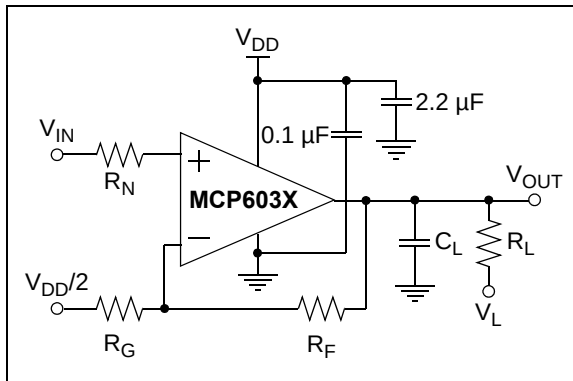
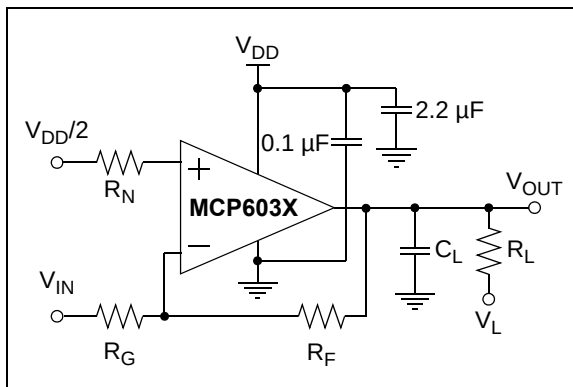

**FIGURE 1-2:** AC and DC Test Circuit for Most Non-Inverting Gain Conditions.
**FIGURE 1-3:** AC and DC Test Circuit for Most Inverting Gain Conditions.
**Electrical Characteristics:** Unless otherwise indicated,  $V_{DD} = +1.8V$  to  $+5.5V$ ,  $V_{SS} = GND$ ,  $T_A = +25^\circ C$ ,  $V_{CM} = V_{DD}/2$ ,  $V_{OUT} \approx V_{DD}/2$ ,  $V_L = V_{DD}/2$ ,  $R_L = 1\text{ M}\Omega$  to  $V_L$  and CS is tied low. (Refer to Figure 1-2 and Figure 1-3).
**Electrical Characteristics:** Unless otherwise indicated,  $V_{DD} = +1.8V$  to  $+5.5V$ ,  $V_{SS} = GND$ ,  $T_A = +25^\circ C$ ,  $V_{CM} = V_{DD}/2$ ,  $V_{OUT} \approx V_{DD}/2$ ,  $V_L = V_{DD}/2$ ,  $R_L = 1\text{ M}\Omega$  to  $V_L$  and  $\overline{CS}$  is tied low. (Refer to Figure 1-2 and Figure 1-3).
**Electrical Characteristics:** Unless otherwise indicated,  $T_A = +25^\circ C$ ,  $V_{DD} = +1.8$  to  $+5.5V$ ,  $V_{SS} = GND$ ,  $V_{CM} = V_{DD}/2$ ,  $V_{OUT} \approx V_{DD}/2$ ,  $V_L = V_{DD}/2$ ,  $C_L = 60\text{ pF}$ ,  $R_L = 1\text{ M}\Omega$  to  $V_L$  and  $\overline{CS}$  is tied low. (Refer to Figure 1-2 and Figure 1-3).
The test circuits used for the DC and AC tests are shown in Figure 1-2 and Figure 1-3. The bypass capacitors are laid out according to the rules discussed in Section 4.6 “Supply Bypass”.